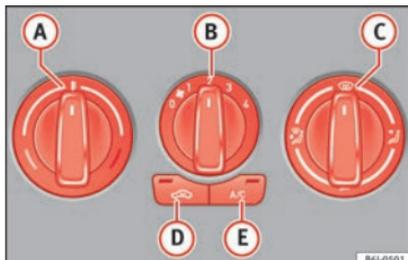

Fig. 166 Air conditioning controls on the dash panel.
- Using the rotary switches (A), (B) and (C) »» Fig. 166 you can adjust temperature, blower speed and air distribution.
- To switch a function on or off, press the appropriate button (D) or (E). When the function is activated, a red warning light on the button is turned on.
- Turn off the cooling system using the **» Fig. 166**  button (the button light turns off).
If the rotary switch  **» Fig. 166** is in the thaw position, the recirculation flap will always be open (button light off).
- Press button  **» Fig. 166**, the switch's lamp will light up, indicating that air recirculation inside the vehicle has been activated.